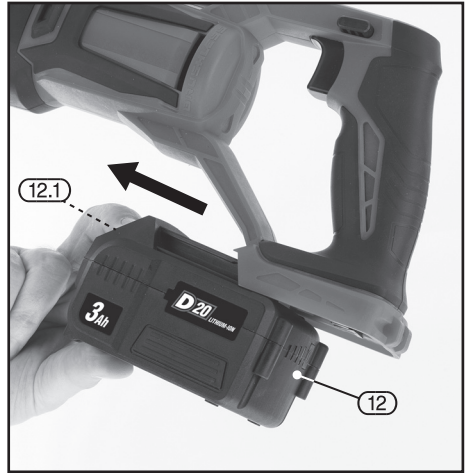

FIG.1
8.1 BATTERY PACK CHARGING – FIGS. 1 – 2
- Press the battery release button (12.1) and gently slide the battery pack off (Fig.1).
- Plug the battery charger (11) unit into a 230V/AC 13amp three pin supply socket.